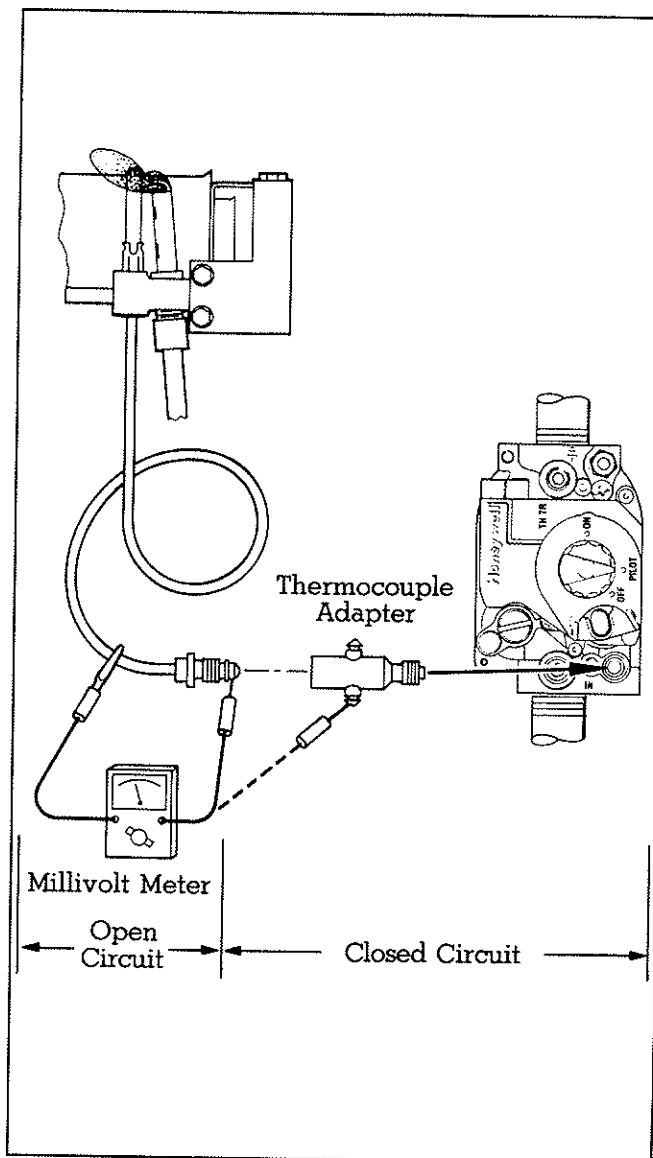

Figure 20. Thermocouple Checkout
1. Open circuit should be at least 20 millivolts (see Fig. 20).